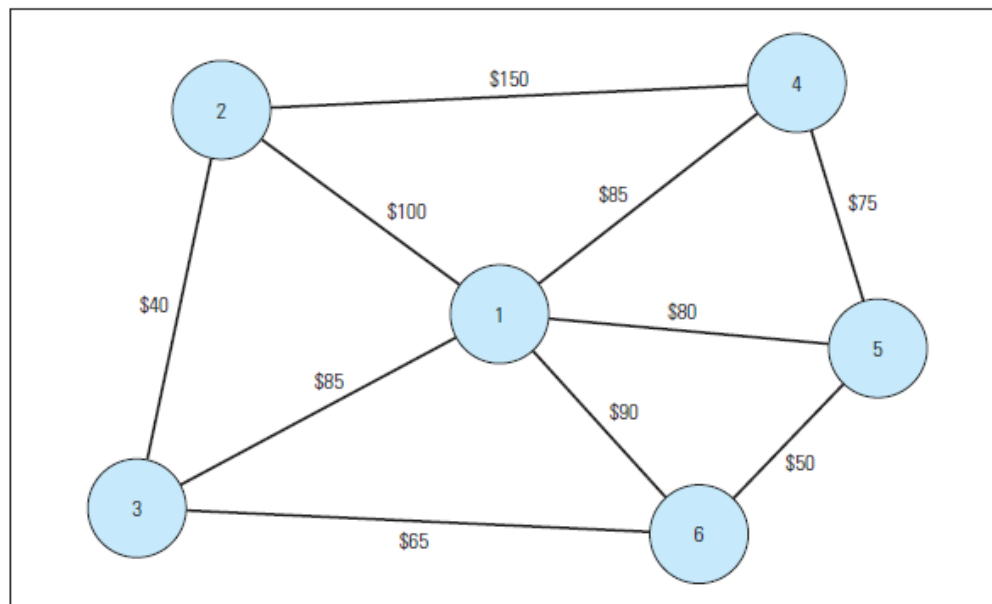

Figure 11
- **Step 1.** If we select node 1 in Figure 11, then node 1 is the current sub-network.